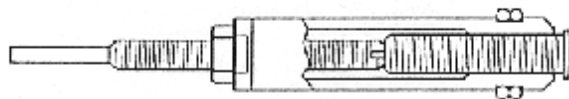

Figure 4
- For bolts with maximum length of 20mm, position the impact pin of the bolt holder with its threads away from the stud. For bolts with length exceeding 20mm, position the impact pin with its threads towards the stud. See Fig. 4